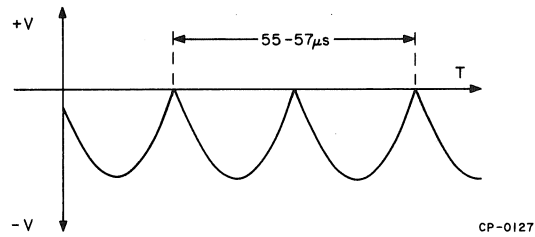

Figure 5-7 Compressor Waveform for FWD and REV
3. Initiate FWD tape motion and measure the compressor waveform for a double-period of 55–57 μ s (Figure 5-7).
5. Initiate REV tape motion and measure the compressor waveform for a double-period of 55–57 μ s (Figure 5-7).